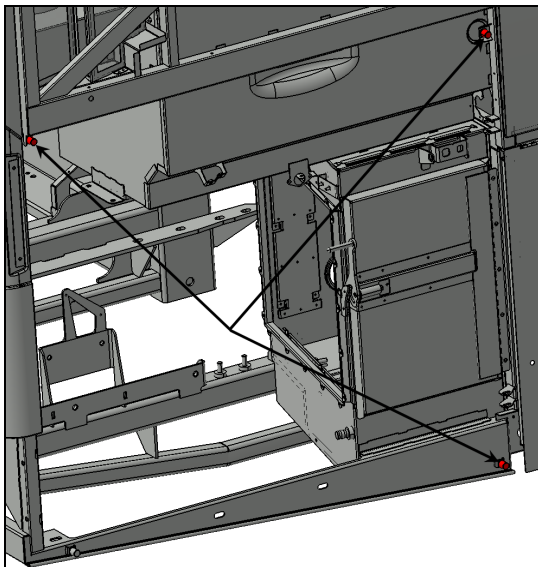
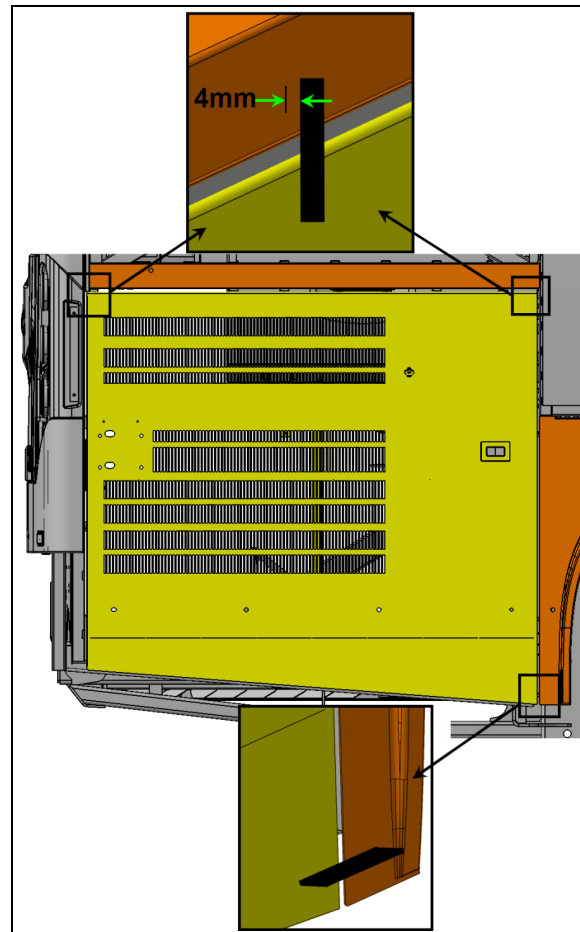

FIGURE 71
FIGURE 72
19. Screw in or out the two upper stoppers so that the upper part of the door exceeds the horizontal member by  $5/32$ " to  $3/16$ " (4mm to 5mm) (see FIGURE 71 & FIGURE 72).